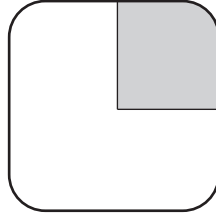

Fig. 2.1
- (a)** Select a field of view so that you can observe the different tissues as shown by the shaded area in Fig. 2.1.
- (i)** Draw a large plan diagram of the region of the stem on L1 shown by the shaded area in Fig. 2.1.